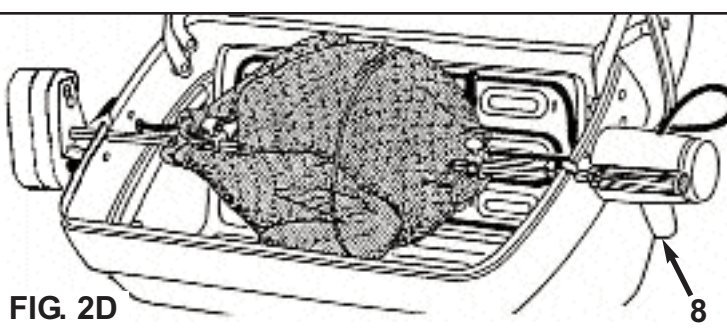

FIG. 2D
3. Adjust Temperature Control (8) of electric grill to #2 Medium position (**FIG. 2D**). Leave hood open for slowest possible cooking, or shut hood for fastest cooking.